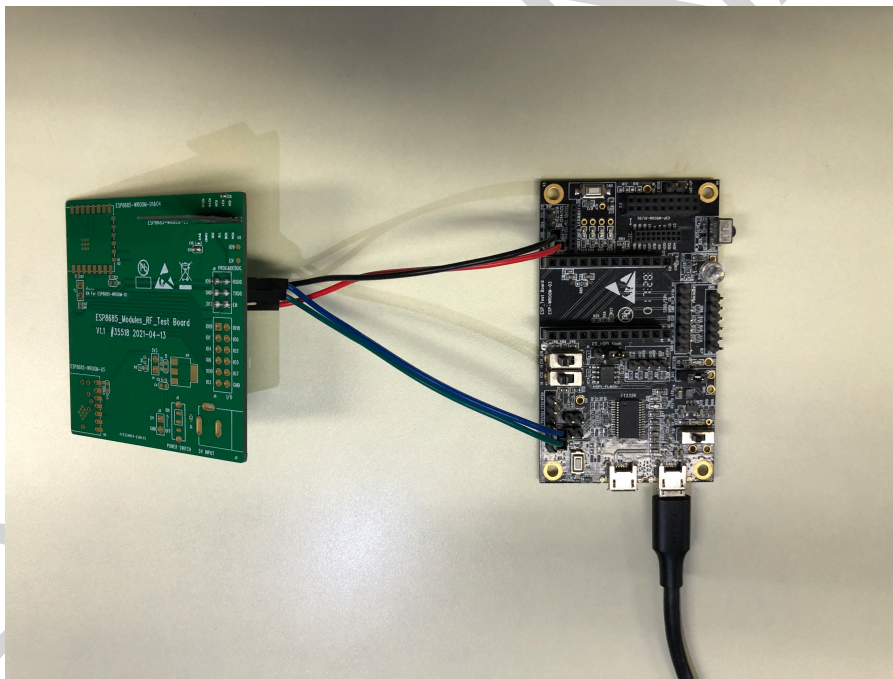

Figure 2: Hardware Connection
1. Solder the ESP8685-WROOM-06 module to the RF testing board as shown in Figure 2.